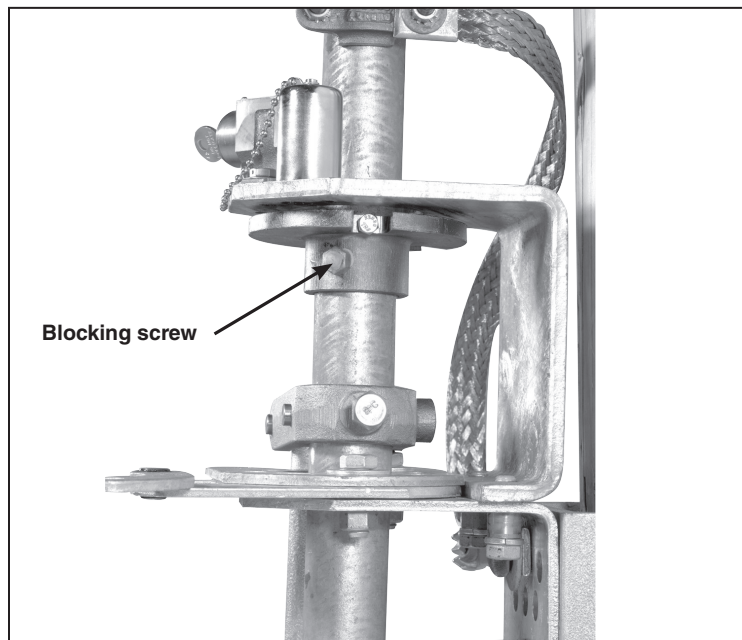

Figure 33. The blocking slot in the interlock disc.
STEP 33. Block one of the two slots in the locking disc with the blocking screw provided. (The slot to be blocked depends on whether a locked-open or locked-closed arrangement is required.) See Figure 33.